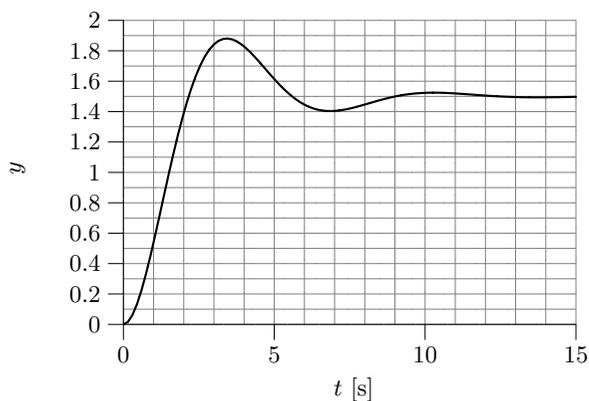

Figure 2.9a
2.9 Figure 2.9a shows the step response of a system $Y(s) = G(s)U(s)$. The input step has amplitude 1. Use the figure and determine